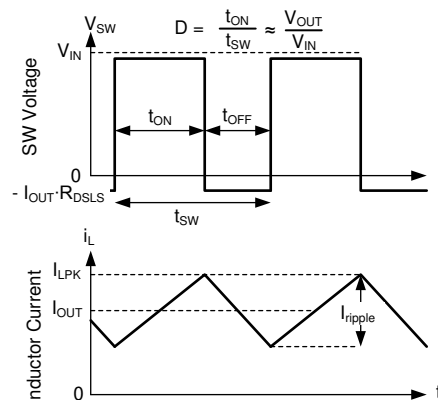

図 8-20. SW Voltage and Inductor Current Waveforms in Continuous Conduction Mode (CCM)
The following operating description of the LM6x4xx refers to セクション 8.2 and the waveforms in 図 8-20. Both supply a regulated output voltage by turning on the internal high-side (HS) and low-side (LS) NMOS switches with varying duty cycle (D). During the HS switch on-time, the SW terminal voltage, V_{SW} , swings up to approximately V_{IN} , and the inductor current, i_L , increases with a linear slope. The HS switch is turned off by the control logic. During the HS switch off-time, t_{OFF} , the LS switch is turned on. Inductor current discharges through the LS switch, forcing V_{SW} to swing below ground by the voltage drop across the LS switch. The regulator loop adjusts the duty cycle to maintain a constant output voltage. D is defined by the on-time of the HS switch over the switching period: $D = T_{ON} / (T_{ON} + T_{OFF})$.